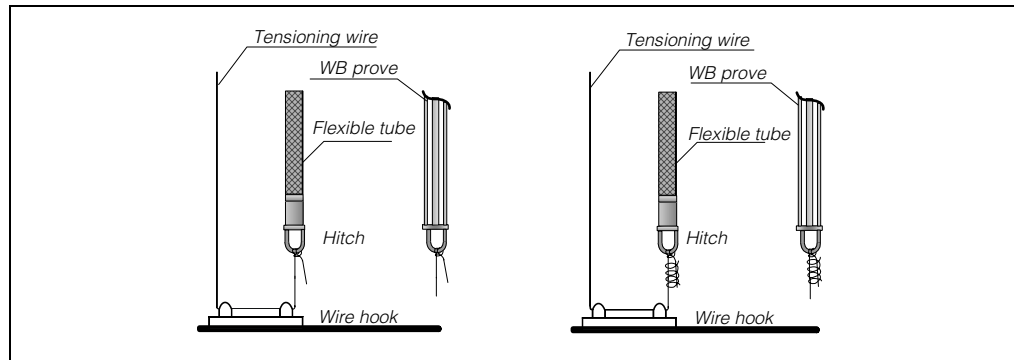

Figure 5-2: Tensioning wire installation
5. Wind the tensioning wire twice around the hitch, tighten it and wrap a commercial wire around it (see Figure 5-2).
4. Tighten the tensioning wire between the lower end of the flexible tube or WB sensor and the anchor weight. Wind the tensioning wire twice around each of the hitches and wrap a wire around it (See Figures 5-2 and 5-3 on page 16.).